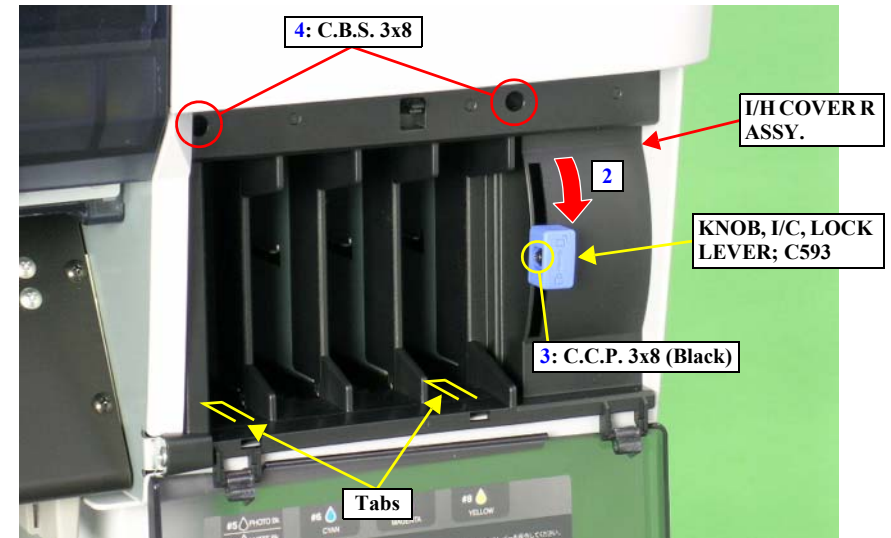

Figure 4-20. Removing the I/H COVER R ASSY.
2. Lower the KNOB, I/C, LOCK LEVER; C593 to the position shown in the figure. *See Figure 4-20.*
3. Remove the screw that secures the KNOB, I/C, LOCK LEVER; C593 and remove it. *See Figure 4-20.*
4. Remove the two screws that secure the I/H COVER R ASSY. *See Figure 4-20.*
5. Release the two tabs that secure the I/H COVER R ASSY. and remove it. *See Figure 4-20.*